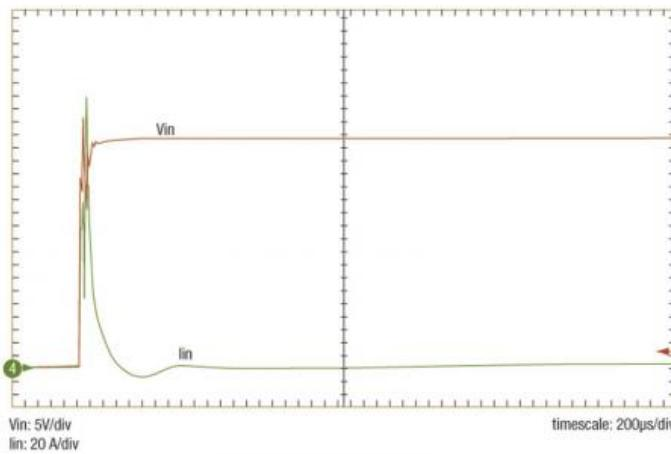
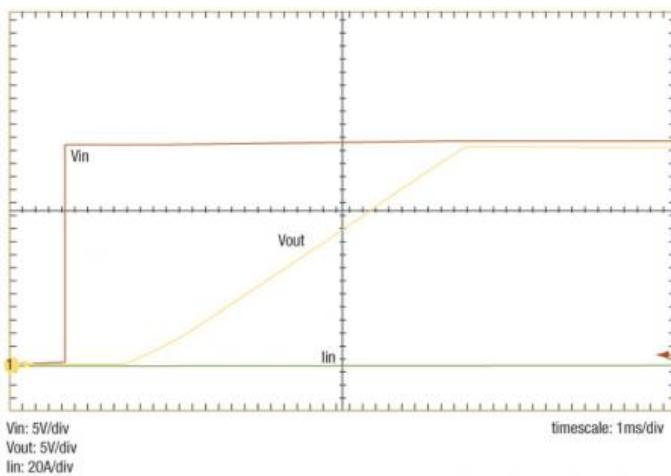

Figure 5
Figure 6
- Figure 5 - Shown here is the operation of a ty...
- Figure 6 - Shown here is the operation of a ty...
VPT now offers a new approach to solving the inrush current problem. The DVCL28 is a dedicated Inrush Current Limiter Module, packaged in a tiny 1-inch square hermetic case. It can power multiple EMI filters and DC/DC converters up to 11A or 200W over the full military temperature range of -55° to +125°C. The DVCL28 uses the circuit diagrammed in Figure 6 to control the output voltage ramp rate or dv/dt. The voltage waveforms shown with and without the inrush limiter are shown in Figure 5 and Figure 6. A 28V step function waveform is applied to the input. The rising slope of the output voltage is controlled to 6 V/ms, limiting the inrush current into a 500 uF capacitor to less than 3.5A peak.